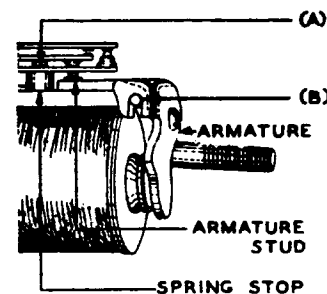

Fig. 1 - 207 Type Relay
1.05 Stud and Stop Clearance — Fig. 1 (A): Stud and stops clear springs through which they pass.
1.06 Armature Movement — Fig. 1 (B): Move freely in bearings.